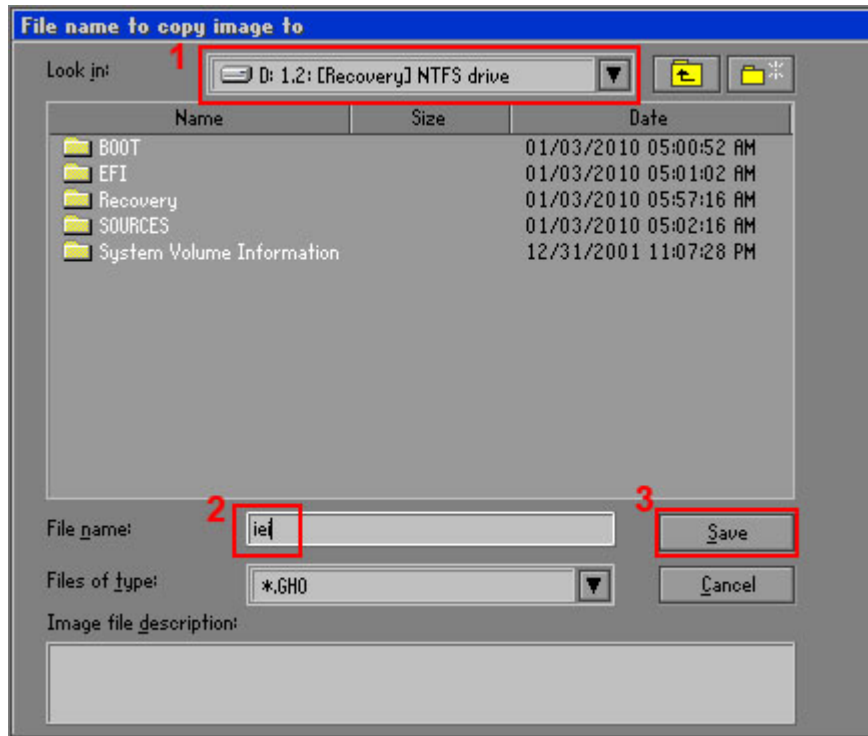

Figure B-16: File Name to Copy Image to
Step 7: Select 1.2: **[Recovery] NTFS drive** and enter a file name called **iei** (**Figure B-16**). Click **Save**. The factory default image will then be saved in the selected recovery drive and named **IEI.GHO**.